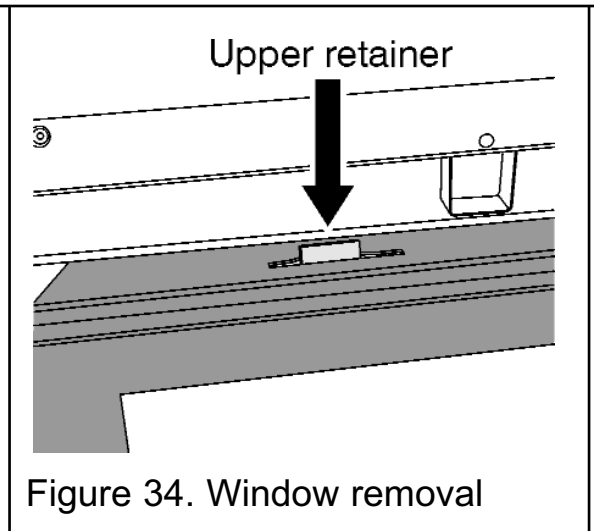

Figure 34. Window removal
3. With both clamps released, gently pull the base of the window panel forward. Hold the window panel base and lift upward until clear of the two upper window retainers (See figure 34).